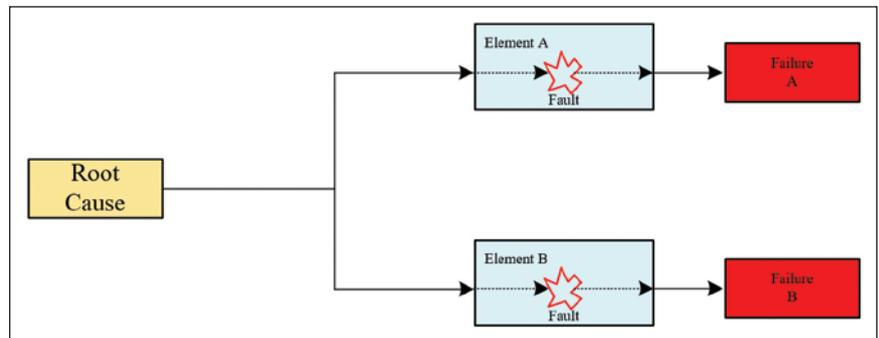

Figure 8: Common cause failure model
- *Common cause faults:* Where a singular fault leads to two faults in two separate elements (Figure 8).